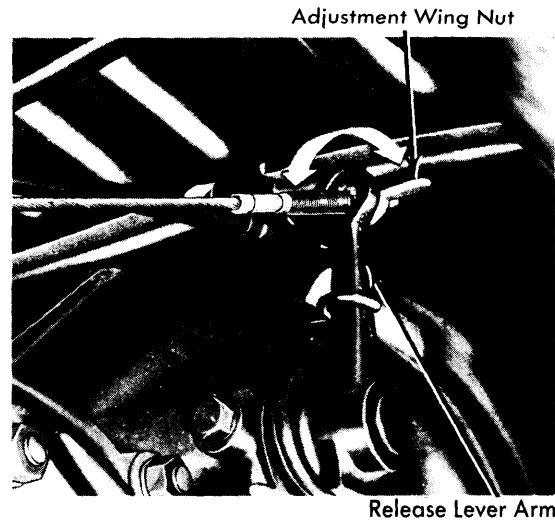

Fig. 3 Clutch Free Play Adjustment Point
2) When free play is correctly adjusted there will be approximately  $\frac{3}{32}$ " (Type 2) or  $\frac{1}{16}$ " (Type 1) clearance between operating lever and wing nut. See Fig. 3. After adjusting, make sure two lugs of wing nut engage cutouts in lever.